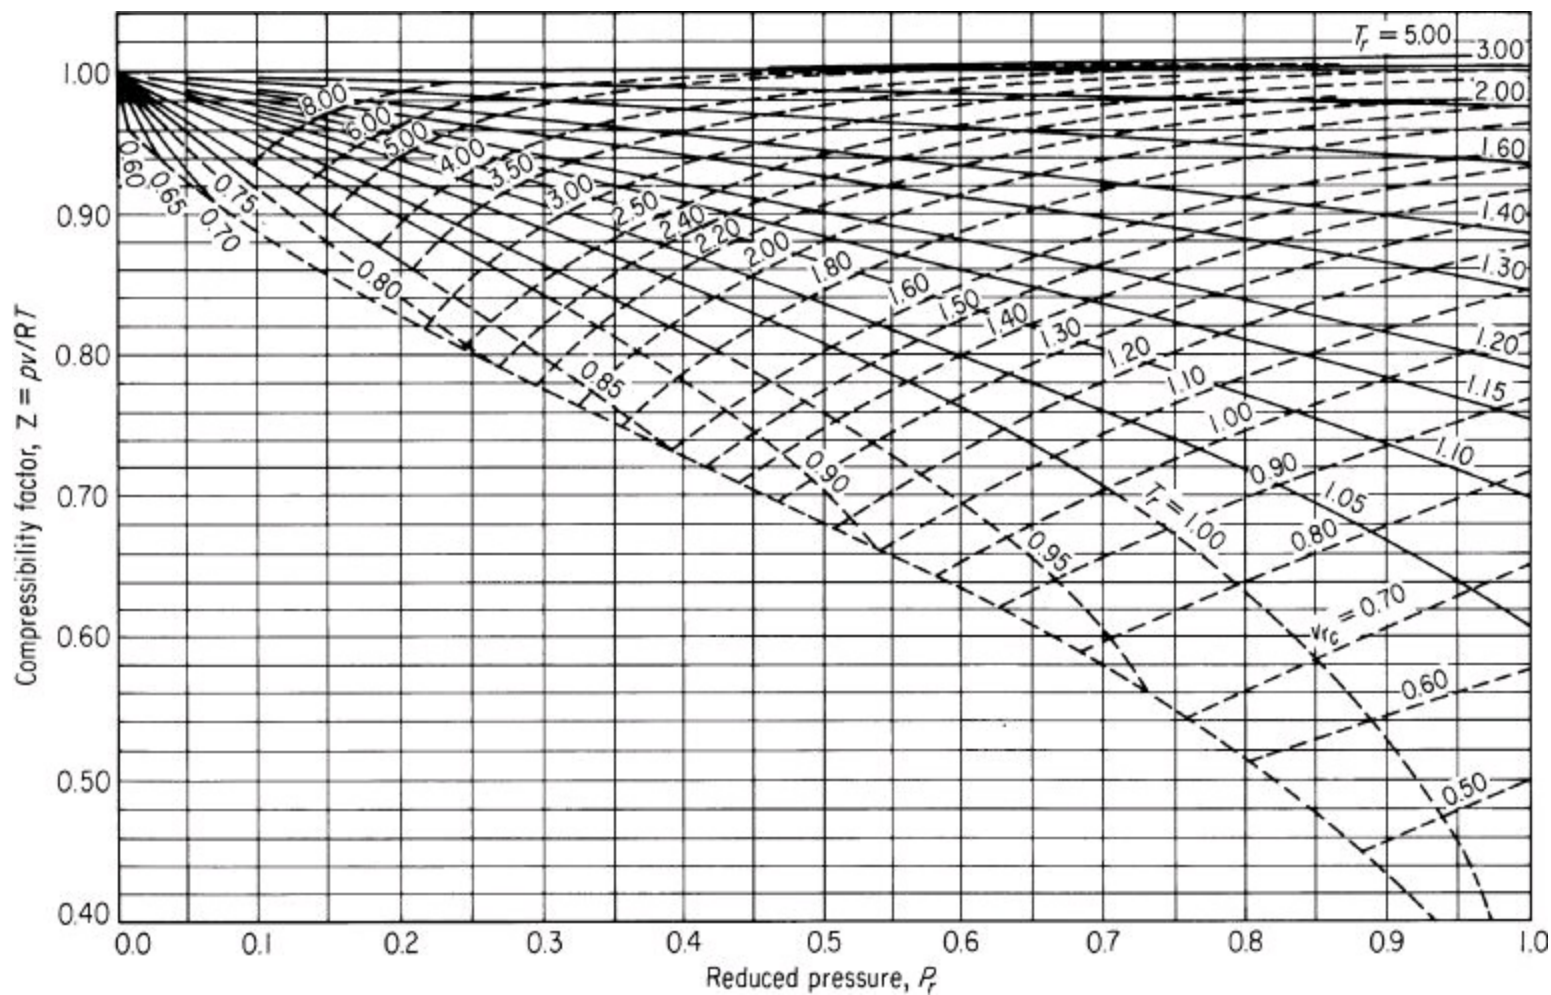
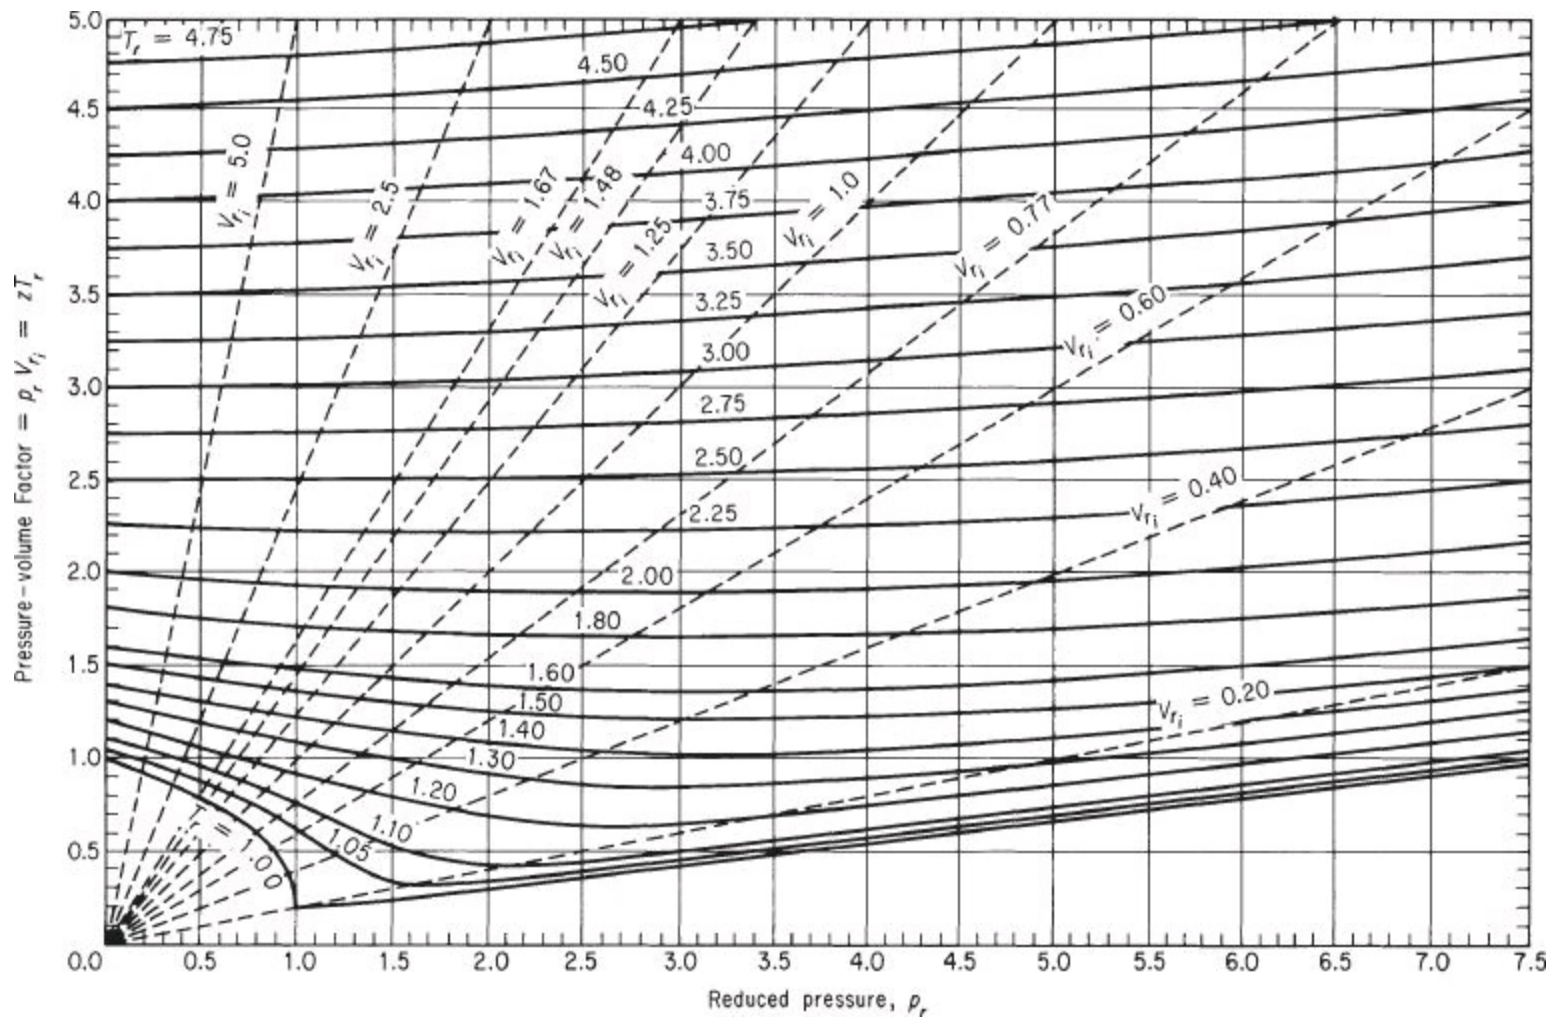

Figure 7.8a. Generalized compressibility chart for lower pressures showing z as a function of p_r , T_r , and \tilde{V}_{ri}
Figure 7.8b. Generalized compressibility chart for higher values of p_r
Figures 7.8a and 7.8b show two examples of the **generalized compressibility factor** charts prepared by Nelson and Obert.² These charts are based on data for 30 gases. Figure 7.8a represents z for 26 gases (excluding H_2 , He, NH_3 , and H_2O) with a maximum deviation of 1%, and H_2 and H_2O within a deviation of 1.5%. Figure 7.8b is for 9 gases and errors can be as high as 5%. Note that the vertical axis in Figure 7.8b is not z but zT_r . To use the charts for H_2 and He (only), make corrections to the actual constants to get **pseudocritical** constants as follows:
Then you can use Figures 7.8a and 7.8b for these two gases using the pseudocritical constants as replacements for their true values. You will find these two charts and additional charts for other ranges of p_r and T_r on the CD that accompanies this book in a format that can be expanded to get better accuracy.
1. What is in the blank region in Figure 7.8a below the curves for T_r and \hat{V}_{ri} ? The blank region corresponds to a different phase—a liquid.
From the Nelson and Obert (N&O) chart, Figure 7.8a, you can read $z \cong 0.855$. The value may be somewhat in error because ammonia was not one of the gases included in the preparation of the figure. Rather than calculating the specific volume directly, let's calculate it from the ratio of $pV_{\text{real}} = z_{\text{real}}nRT$ to $pV_{\text{ideal}} = z_{\text{ideal}}nRT$, the net result of which is
From the Nelson and Obert chart (Figure 7.8b) you can read